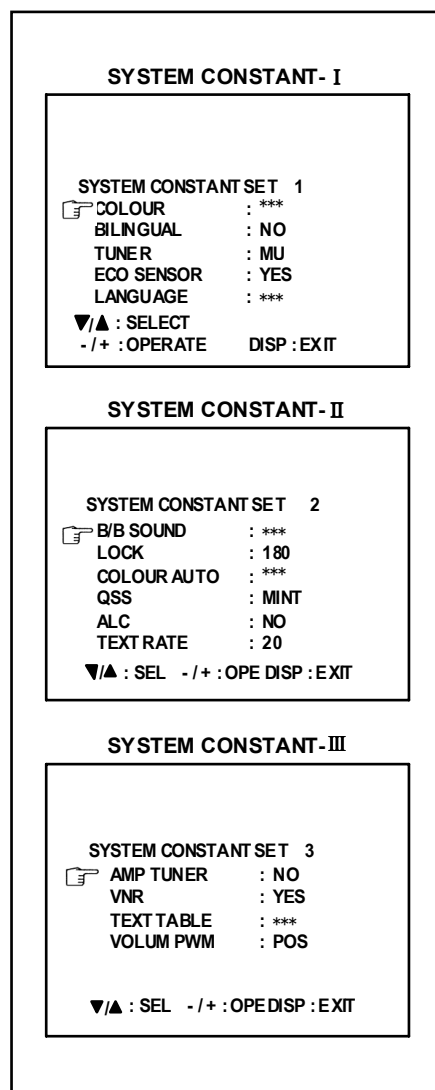

Fig.2
- While the SERVICE MENU is displayed, again press the **DISPLAY** key and **PICTURE MODE** key simultaneously, and the SYSTEM CONSTANT SET screen of Fig. 2 will be displayed.